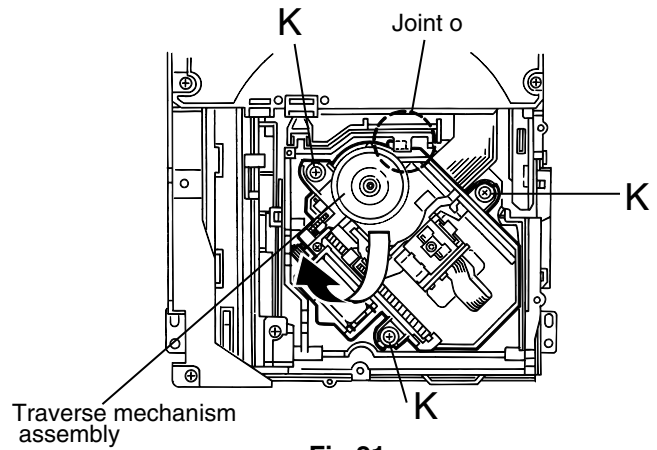

Fig.21
■Removing the traverse mechanism assembly (See Fig.21)